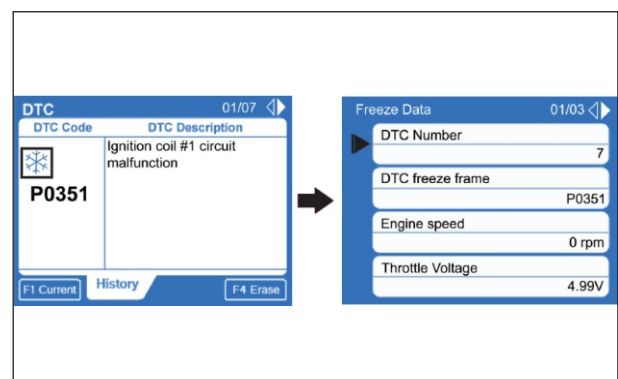

Fig. 7.14
- The symbol (highlighted) near a DTC code represents that this particular error has freeze frame data. The freeze frame data contains all the system level data during the occurrence of that particular error. This occurs only for the error created first. (Fig. 7.14)